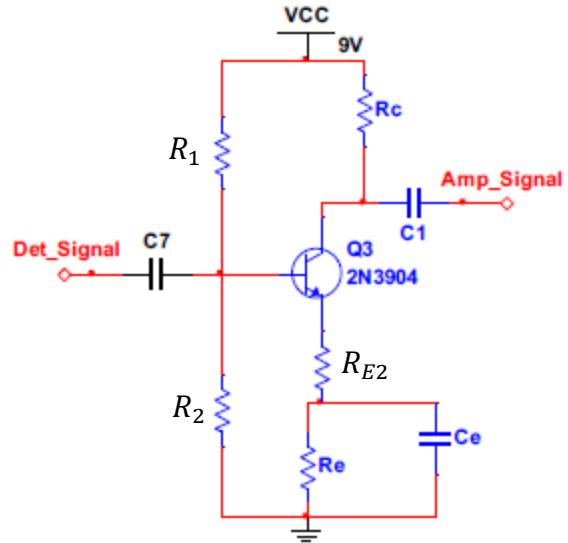

Figure 9: Baseband Amplifier
1. Design and simulate the base-band amplifier shown in Figure 9 with a small signal gain of about 20 and of quiescent point about (6 V, 1.5 mA). Present both simulated input and output signal.
- b) Simulate the circuit in Figure 9 to verify the results you got from your calculations and add them to the same table. Take a screenshot for the simulation with the results of the DC simulations and add it below. Add your simulated results plot below and save your simulation file as “Proj-B-1b.ms14”.
- d) Apply an input signal to the input of the Baseband Amplifier in Figure 9. Set the signal Frequency to around 5 kHz and set the amplitude about 10 mV peak. Plot the input and output waveform in an oscilloscope. Add your simulated results plot below and save your simulation file as "Proj-B-1d. ms14".